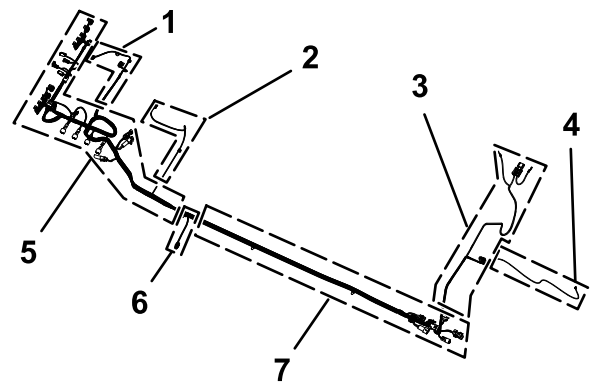

Figure 83
1. Locate the 165 cm (65 inches) branch and the 203 cm (80 inches) branch of the new electrical harness (Figure 83).